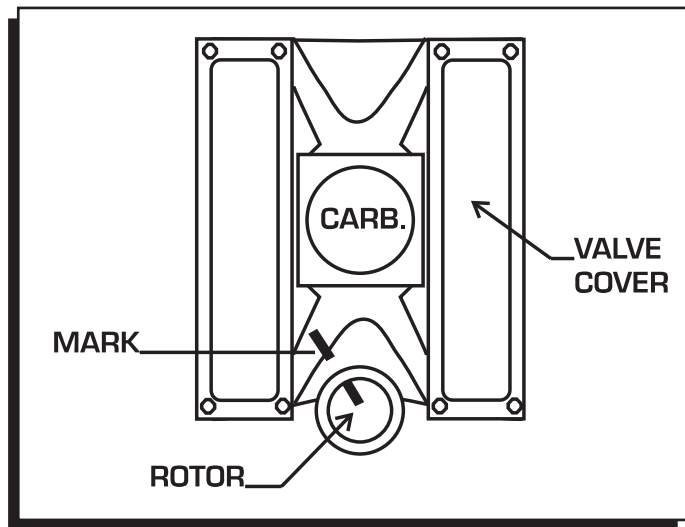

Figure 9 Marking the Rotor Location.
2. With the cap off, crank the engine until the rotor is aimed at a fixed point on the engine or firewall. Note this position by making a mark (Figure 9).